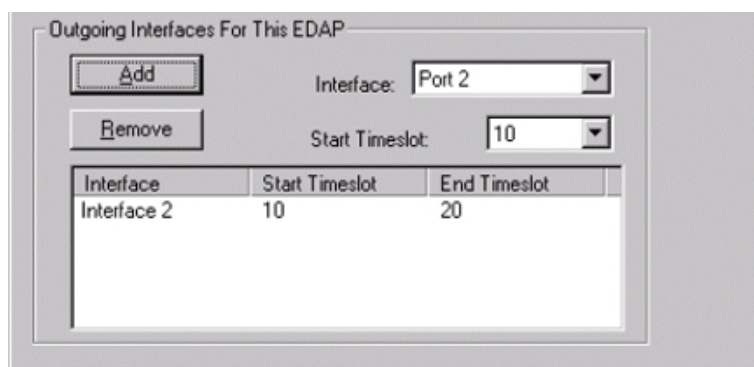

Figure 21. Selecting the interface for EDAP allocation in a cross-connected BTS configuration
- If the EDAP is to be shared with other BTSs in a cross-connection, select the outgoing interface port in the 'Outgoing interfaces for this EDAP' box. See Figure 21 for an example of this part of the *EDAP Properties* window (this only appears if cross-connections are being used).